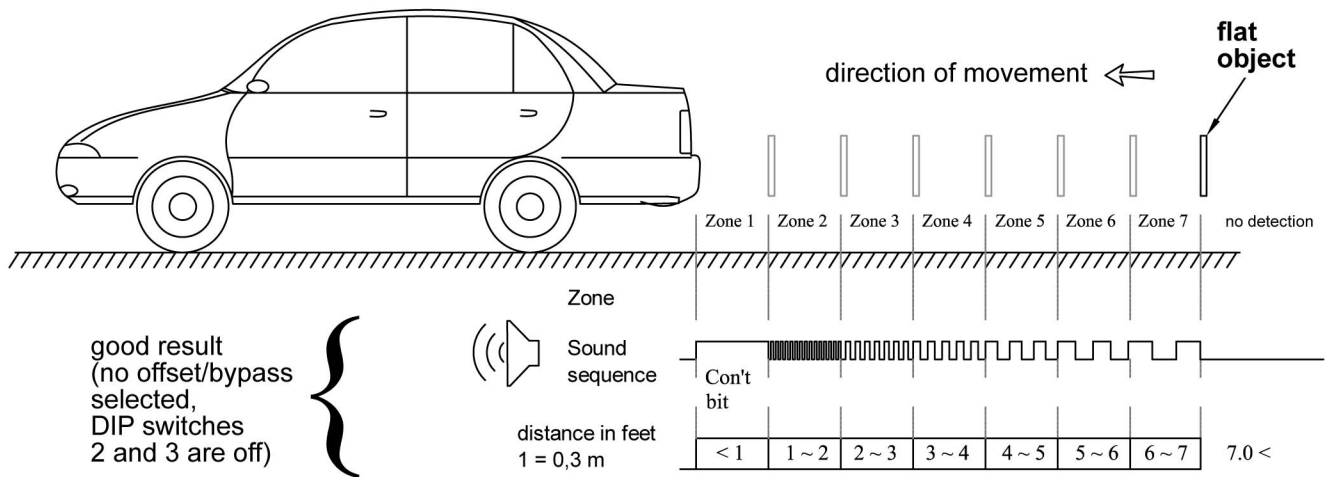

Figure : 6.0a (testing - no offset/bypass selected)
3. Figure 6.0a and 6.0b show test procedure for the option of present/absent offset/bypass.